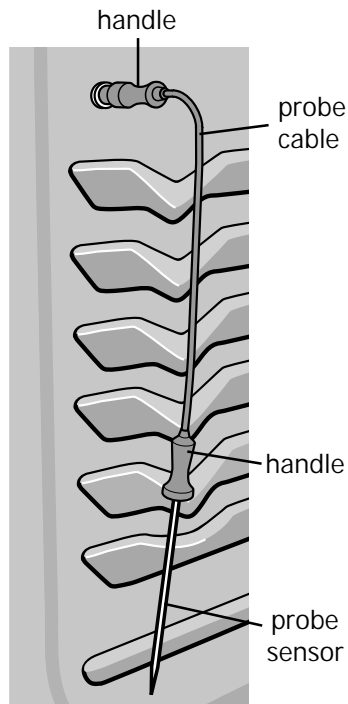

Fig. 1
- To avoid damaging the probe, **do not** use kitchen utensils such as tongs to pull on the probe cable or handles. Always insert and remove the probe using the provided handles (See Fig. 1) and always use a pot holder to protect hands from possible burns.